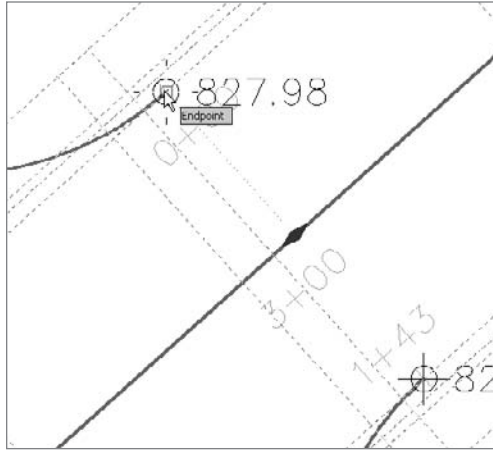

Figure A.77
3. Select the corridor, right-click, and choose Rebuild Corridor. The resulting corridor will look like Figure A.77.